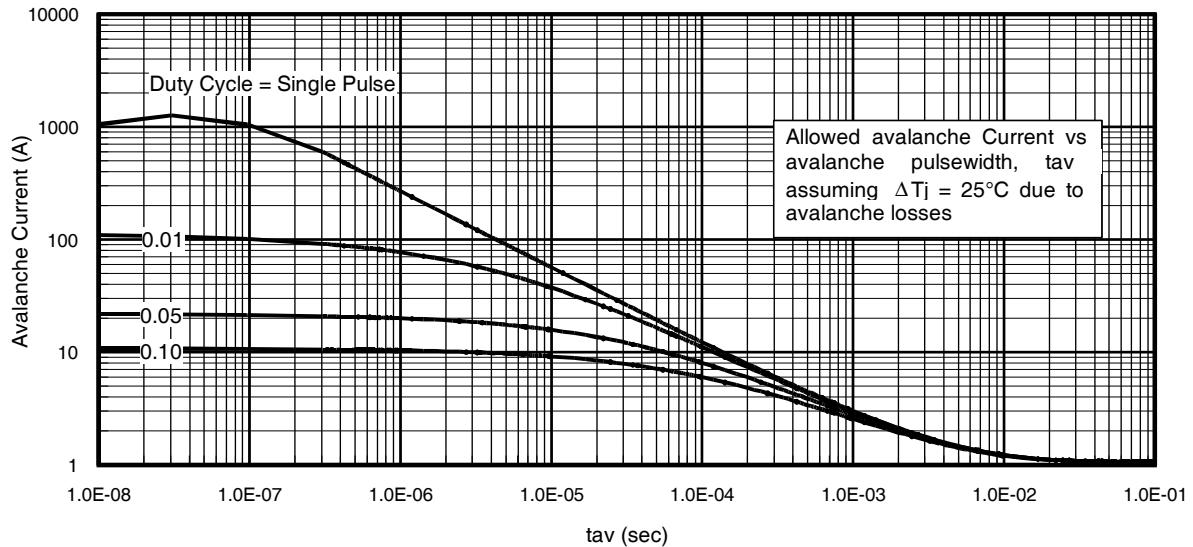

Fig 15. Typical Avalanche Current vs.Pulsewidth
**Notes on Repetitive Avalanche Curves , Figures 15, 16:
7. ΔT = Allowable rise in junction temperature, not to exceed T_{jmax} (assumed as 25°C in Figure 15, 16).